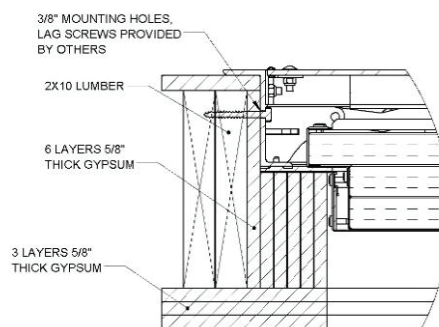

FIGURE 3
- A. With two or more people, set the floor door in place and secure to the mounting surface with bolts (For existing concrete openings, 3/8-inch anchor bolts are recommended (Figure 1 & 2). For existing wood openings 3/8-inch lag bolts are recommended) (Figure 3 & 4). Secure Hinge side frame first.